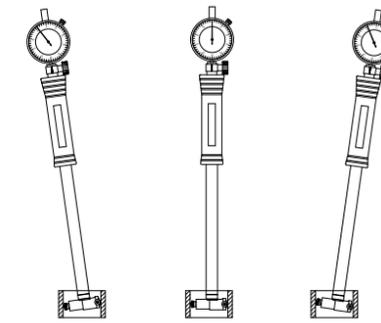

Fig.1
(1) Set size: Choose anvil, extension rod and washer according to the size of workpiece, then install them as follow figures, please make each part be installed steadily. Use wrench to tighten the anvil when range is less than 1.4". Press contact point several times after installation, the pointer of indicator move smoothly, flexibly.
(2) Set calibration size: Select setting ring, outside micrometer, or standard workpiece, clean measuring faces with soft cloth.
(3) Set zero (as setting ring gage for a example): Insert the bore gage into setting ring and sway the bore gage wiggly (fig.1), to find the "turning point" of the pointer (the maximum reading of the dial indicator). Loosen bezel locking screw and rotate bezel to make "zero line" coincide with "turning point", then tighten bezel locking screw. Sway the bore gage wiggly several times to make sure the "zero line" coincide with the "turning point"